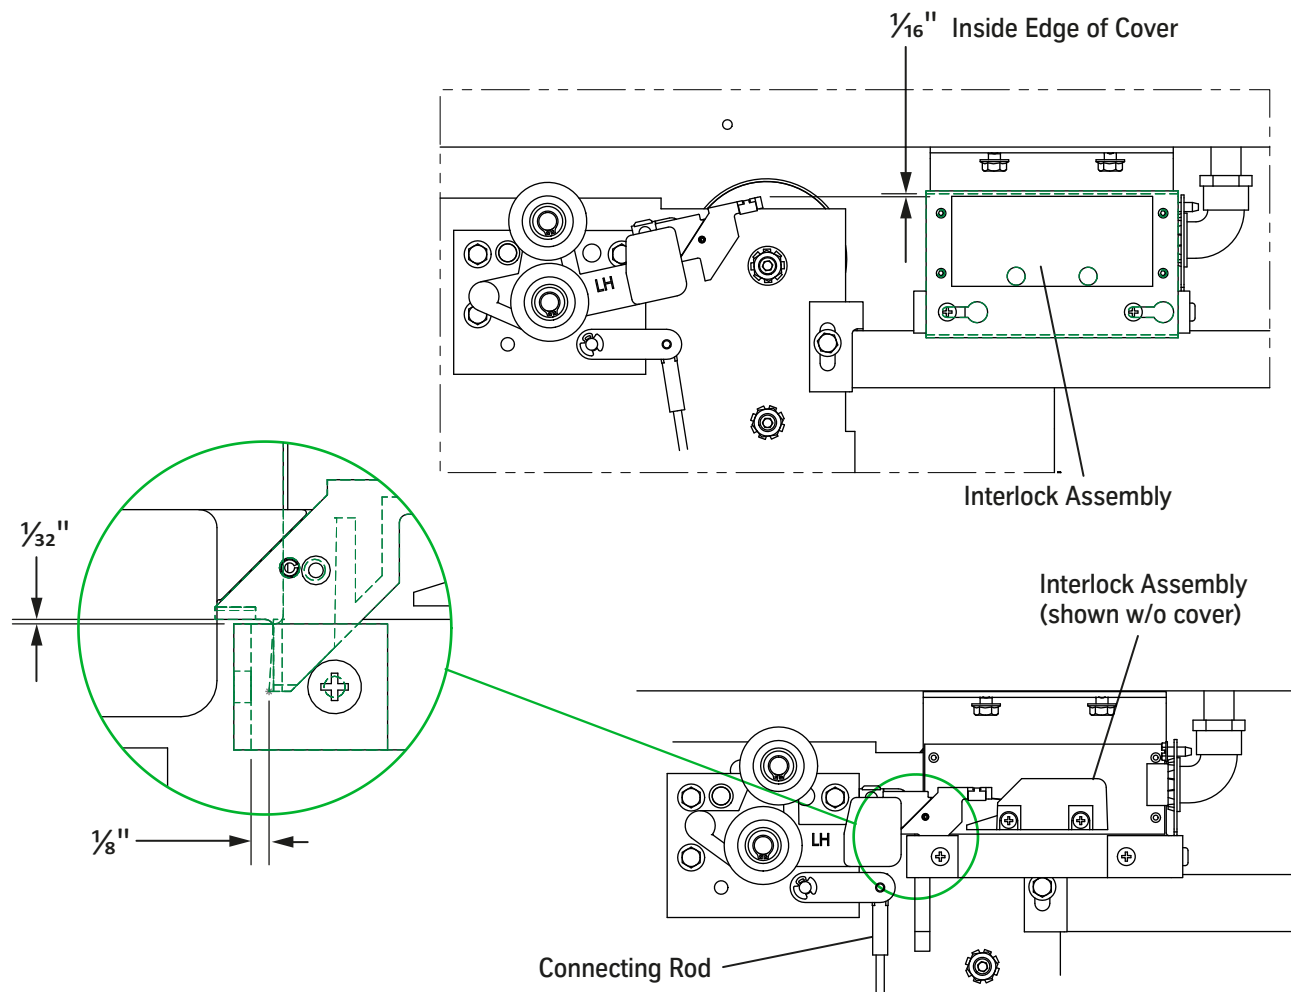

Figure 68 - Center Opening Interlock Adjustment
3. Close the doors, and verify the following. See Figure 68 on page 93.